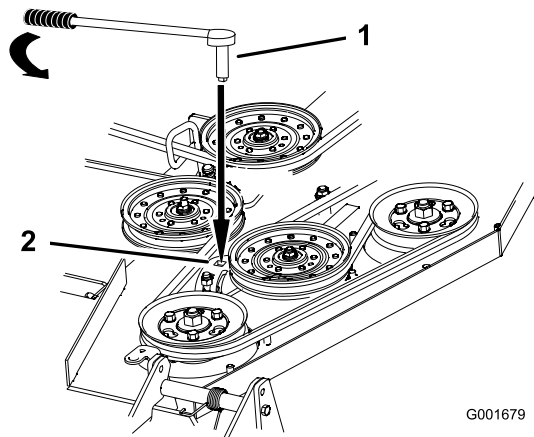

Figure 45
- Insert a ratchet with a short extension or a breaker bar into the square hole in the fixed idler arm (Figure 45).